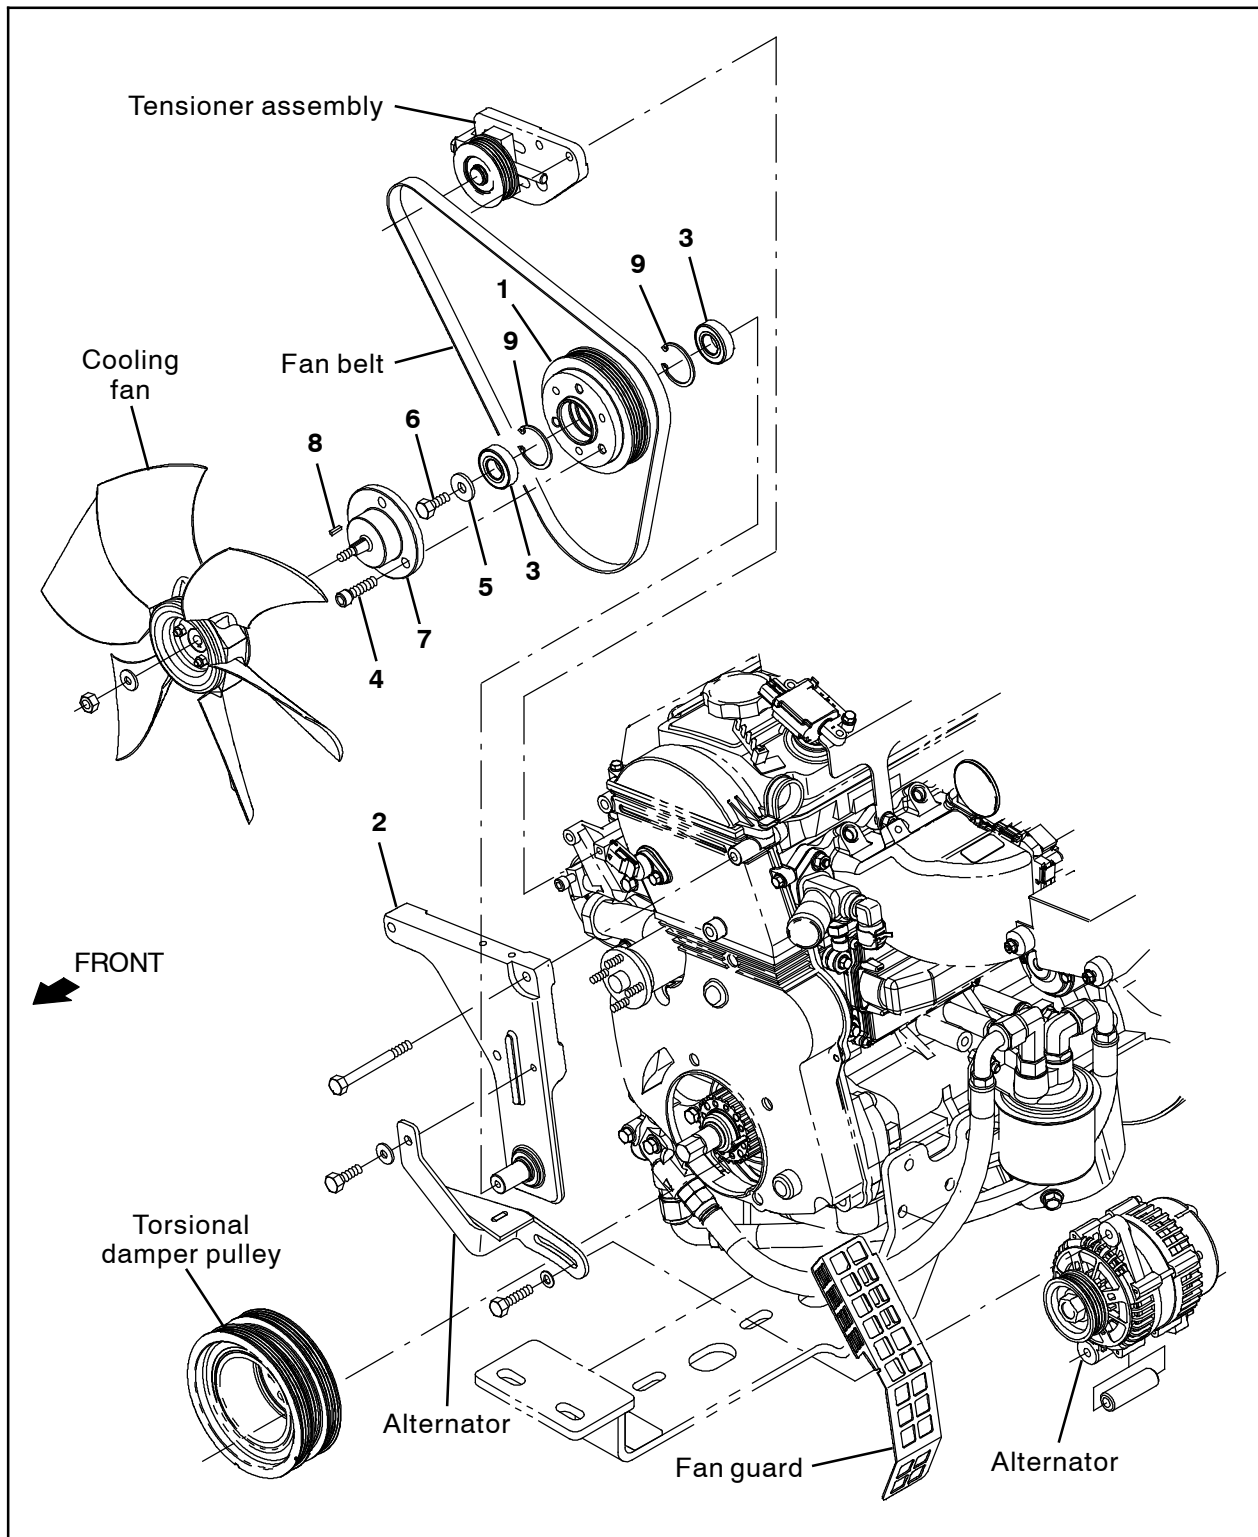

FIG. 2
10. Install the new fan shaft plate (2) onto the machine. (Fig. 2)
11. Install the alternator arm onto the fan shaft plate (2). (Fig. 2)
12. Insert both retaining rings (9) into the new sheave (1). (Fig. 2)
13. Press both ball bearings (3) into the sheave (1) and against the retaining rings (9) installed in the previous step. (Fig. 2)
14. Slide the sheave assembly onto the fan shaft plate (2). (Fig. 2)
15. Use a hex screw (6) and a flat washer (5) to secure the sheave assembly(1) onto the fan hub plate (2). (Fig. 2)
16. Use three socket screws (4) to install the fan spacer (7) onto the sheave assembly (1). (Fig. 2)
17. Position the engine belt onto the sheave assembly, alternator, and torsional damper pulley. (Fig. 2)
18. Insert the key (8) into the notch in the fan spacer (7). (Fig. 2)
19. Reinstall the cooling fan assembly onto the machine. Be sure the key (8) remains in the notch in the fan spacer (7) when installing the cooler fan assembly onto the fan spacer. (Fig. 2)